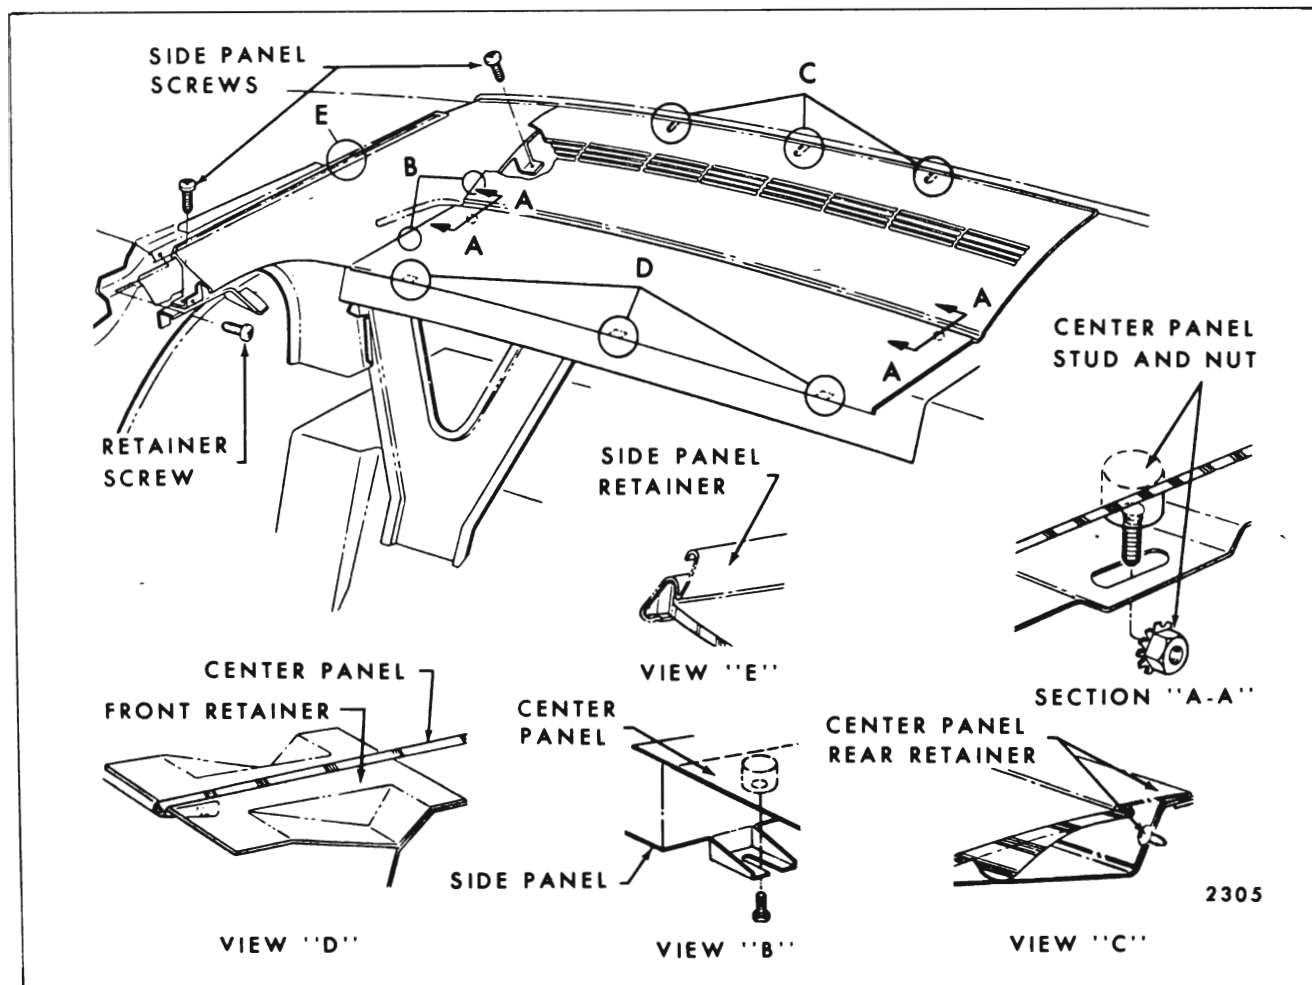

Fig. 14-39—Typical "E" Style Compartment Shelf Trim (Buick "E" Body Shown)
2. From inside rear compartment, remove compartment shelf center finishing panel attaching nuts at locations shown in Section "A-A" in Figure 14-39.
3. From inside body, pull center finishing panel forward sufficiently to disengage both front and rear edge of center finishing panel from retainers (see View "B", Fig. 14-39); then, lift panel upward and remove from shelf panel.
3. Remove compartment shelf side finishing panel attaching screws (Fig. 14-39) and remove side finishing panel. On Oldsmobile styles, disconnect courtesy lamp feed wire.